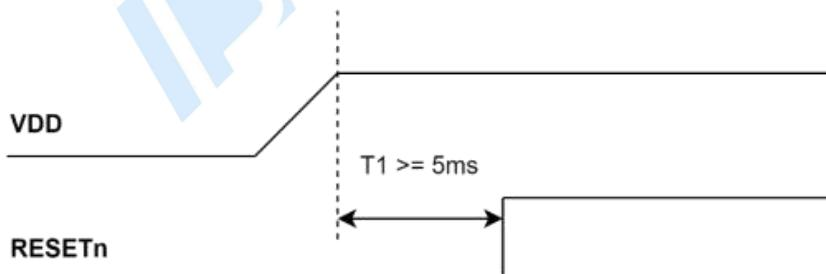

FIGURE 3-1. Power-up Sequence for One Power Supply System
- After VDD reaches their nominal values, the **RESETn** pin needs to be held low for T1 (5ms) to ensure internal block is stable. (See **FIGURE 3-1.**)